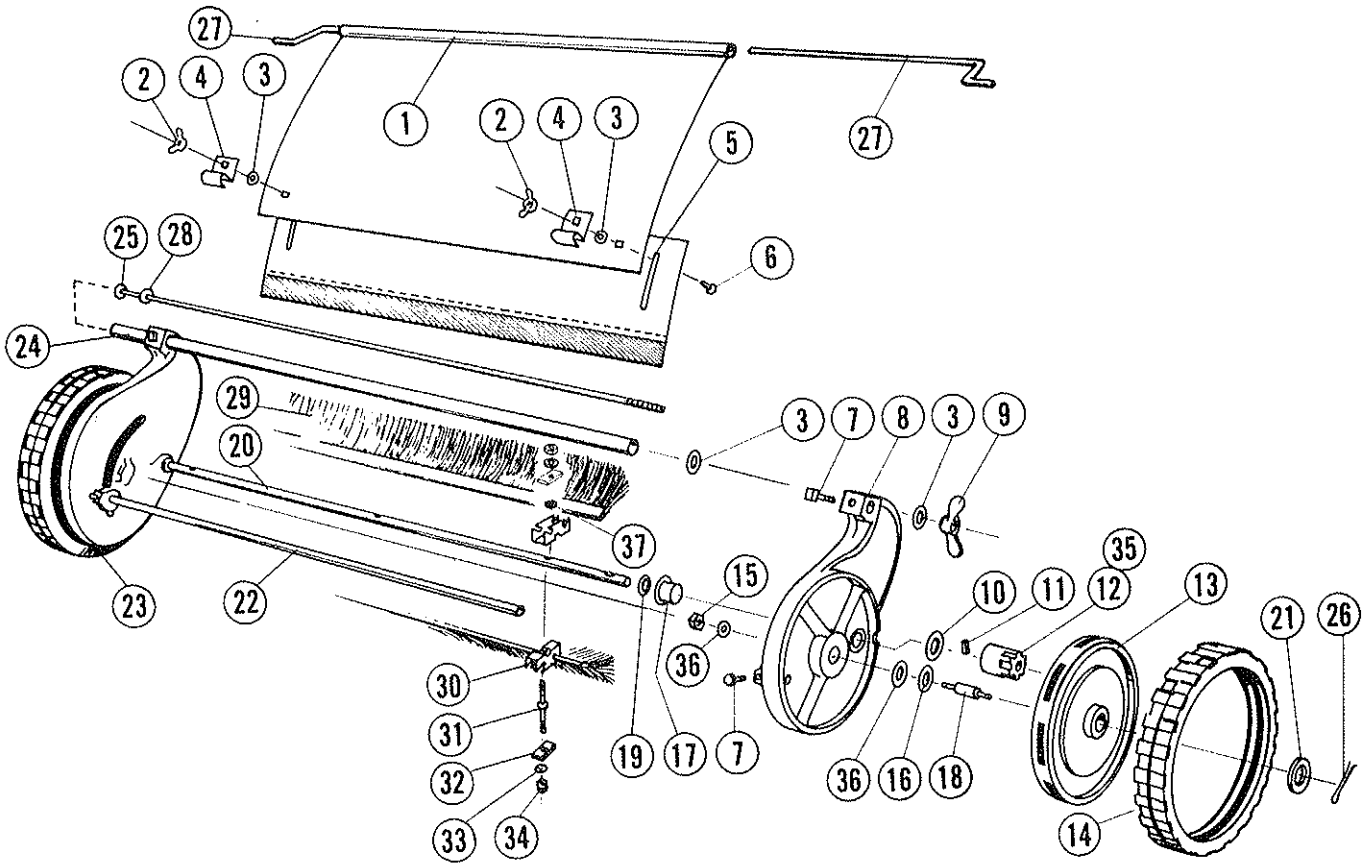

Figure 4
Adjusting Brush Height. Loosen large wing nut, Ref. No. 9, Fig. 4. To raise brushes to extreme height, pull sweeping unit forward as far as slots in brush adjustment brackets, Ref. No. 21, Fig. 5, will permit. To lower brushes to lowest position, push sweeping unit backward as far as slots will permit. Secure wing nut when desired brush adjustment is obtained.
1. For grass clippings or leaves, adjust hood extension, Ref. No. 5, Fig. 4, and brushes to highest positions. After trial run on lawn, should the settings be too high, lower slightly and try again until correct setting is found. Brush life may be prolonged by adjusting so contact with ground is light.
If for any reason it is necessary to disassemble the side plates, the set screws, Item 7, Fig. 4, have been assembled with Loctite and they should also be reassembled the same way. Use Loctite #271-41 (high strength). Before tightening set screws, check to be sure distance between side plates is 25", and that Items 22 and 24, Fig. 4, are parallel with each other and square with the side plates. Do not crush tube, Item 24, with set screw when retightening.